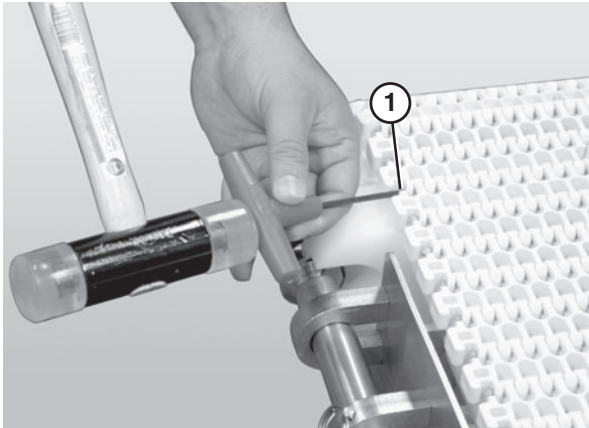

Figure 63
2. Use a punch and hammer to push the belt rod out by striking the rod end opposite the retaining head (Figure 63, item 1).